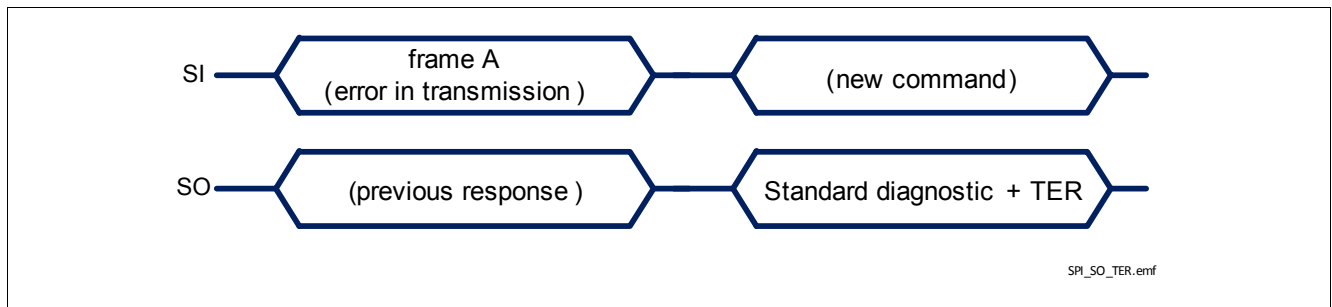

Figure 35 TLE75080-ESH response after a error in transmission
- in case an error in transmission happened during the previous frame (for instance, the clock pulses were not multiple of 8 with a minimum of 16 bits), shown in **Figure 35**